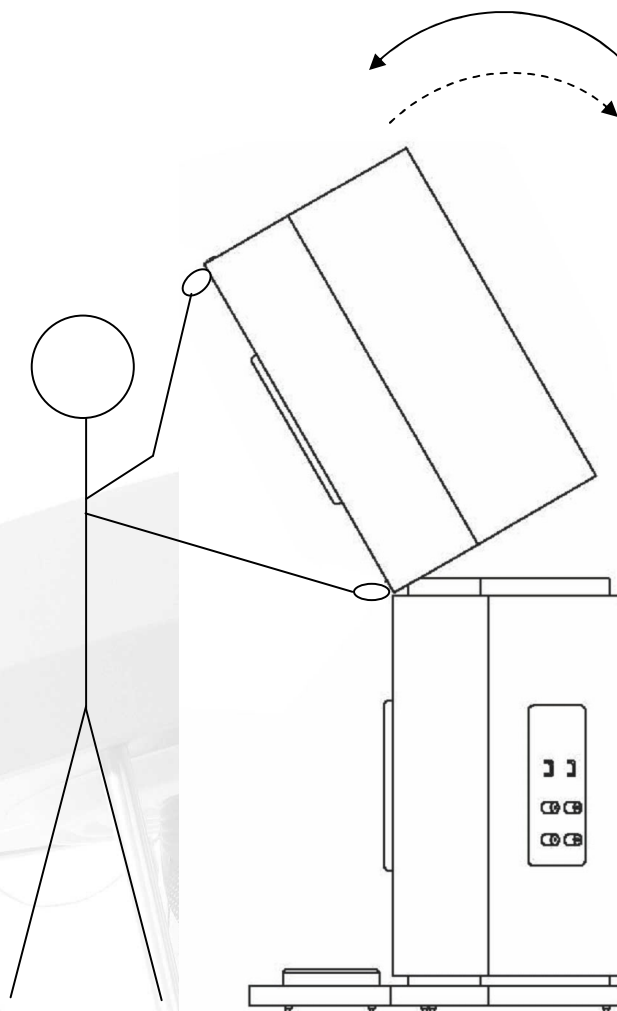

Figure 5. Fitting Upper Module and Connection Cables
4. The next operation must be carried out by two people. You will need 8 of the black inter-cabinet connecting cables ready to hand. Identify the left loudspeaker upper module. Place this on top of the distance frame and ensure that it is properly seated. One person should stand at the front of the speaker and with their hands placed as shown in figure 5, carefully tilt the upper module forward over one edge sufficiently to allow the second person to fit the inter-cabinet connecting cables between the two modules. The upper module may be tilted forward on either edge. Choose the one that is most convenient. Take great care to ensure that it cannot slip forward whilst being tilted. The sockets are colour coded. Please ensure that all the cables are correctly connected.